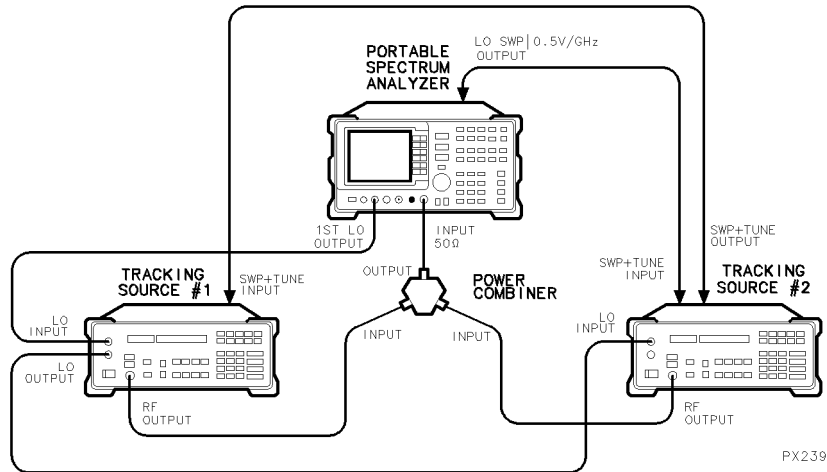

Figure 3-24. Connecting the System for the TOI Measurement
- Press preset on the host spectrum analyzer and connect the equipment as illustrated in Figure 3-24.